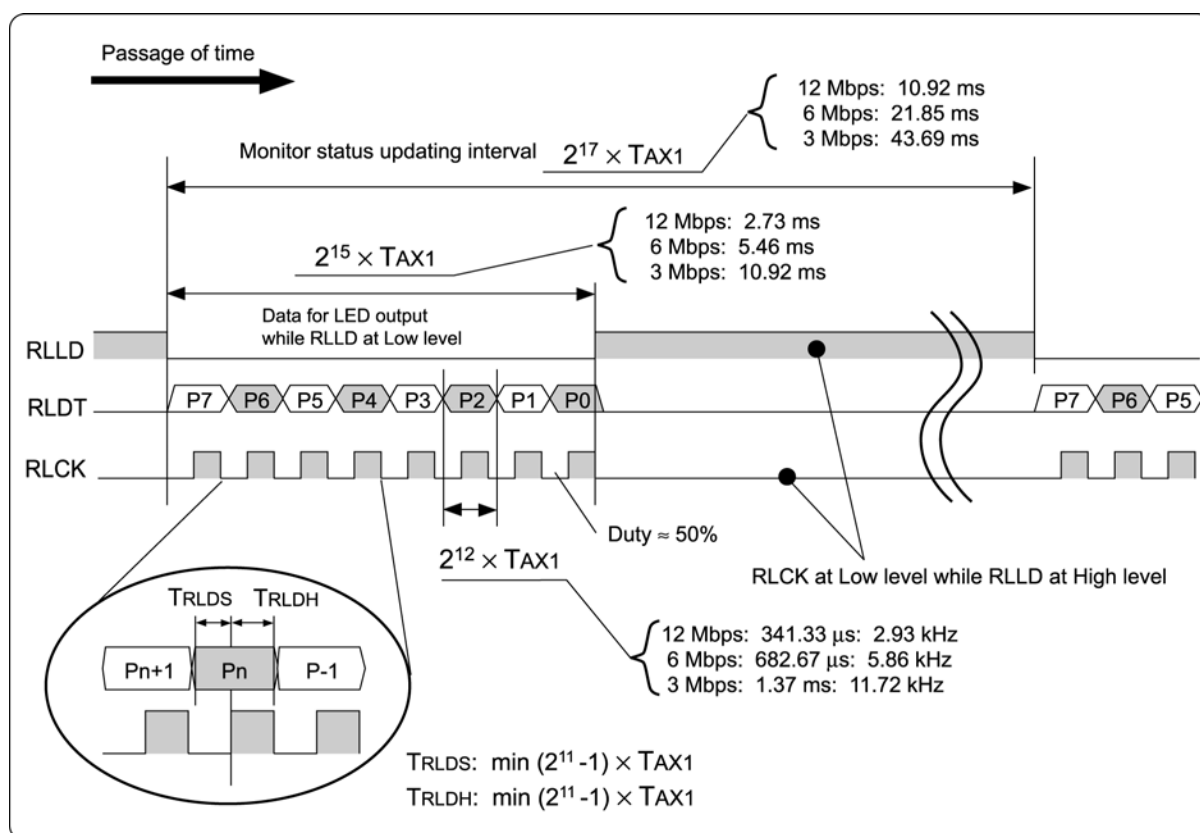

Fig. 3.12 RLLD, RLDT, and RLCK Outputs
- (1) If a hardware reset is activated, all of the pins output a Low level.
- (2) If a hardware reset is not activated, all of the pins output the signals shown in Figure 3.12 using a time of “ $2^{17} \times TAX1$ ” as one unit.
The MKY02 outputs the stored status to the RLDT pin as the signal format shown in Figure 3.12 for a next time of “ $2^{17} \times TAX1$ ”.